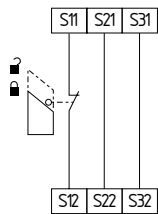

Fig. 7
**Single-channel guard door monitoring circuit with interlocking devices to EN ISO 14119 (see Fig. 7)**